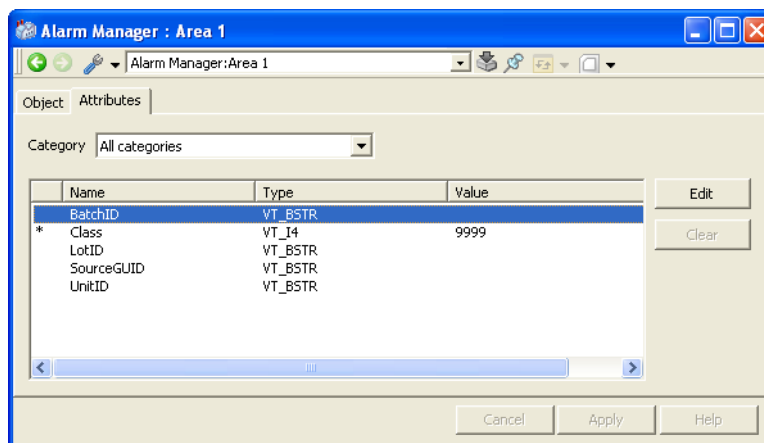

Figure 175. Attributes Tab Definition
- On the **Attributes** tab, select the category to which the extension is applied and set the attribute to the required value, refer to Figure 175.